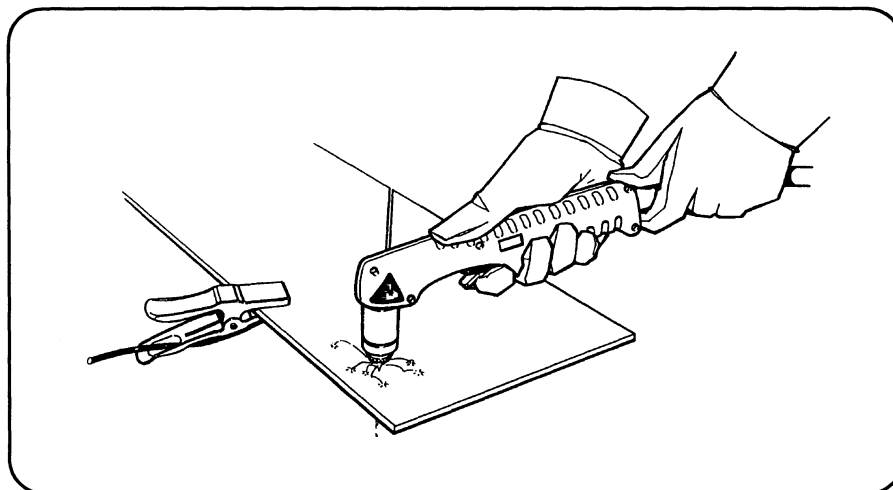

Figure 4-4 Proper Work Clamp Connection
7. Attach the work clamp securely to the workpiece. **Do not attach it to the portion that will fall away (see Figure 4-4).**